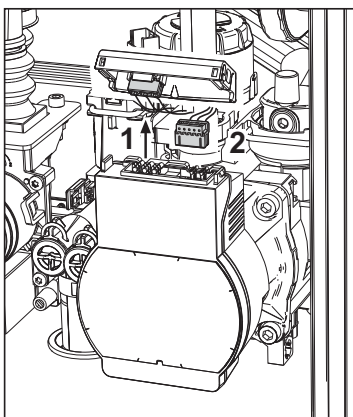

fig. 38
- Electrically disconnect the circulating pump, releasing the connections by raising the detail "1" in fig. 38.